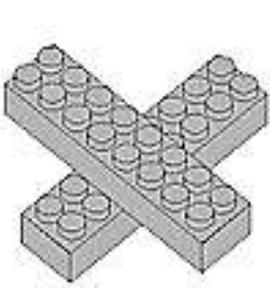

Figure 4-3: Operation # 1
- 1) Assembly of Primary Wing/Airframe Section (Figure 4-3)